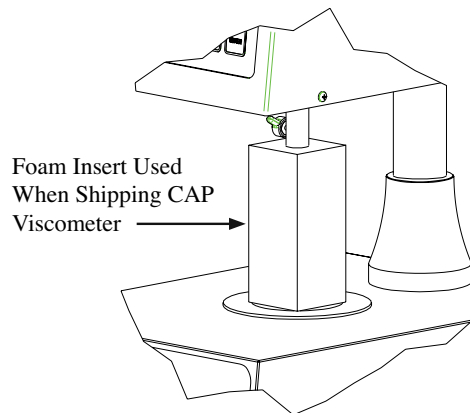

Figure 1
- If you have shipping foam block, as shown in Figure 1, please use it to support the shaft. If you don't, use a suitable material of similar length.